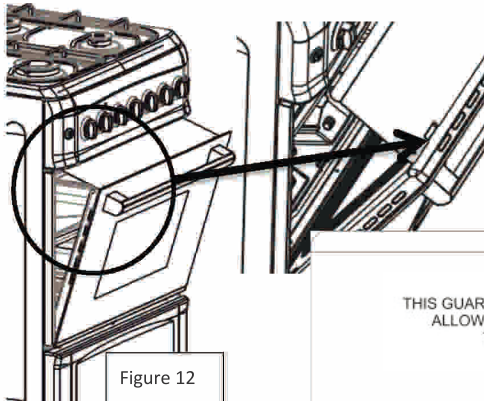

Figure 12
- For the gas furnaces, the furnace cover is opened as shown in Figure 12 when using the upper burner.